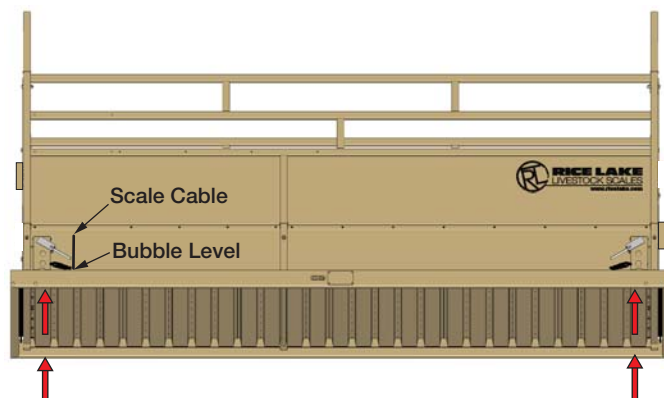

Figure 2-1. Shim/Load Cell Stand Locations
In all installations, the scale must be level to ensure proper operation. All MAS-P Animal Scales are equipped with a bubble level (located on top the base frame – see Figure 2-1). Ensure the bubble is fully inside the circle marked on the top of the level.
Rice Lake Weighing Systems recommends a concrete foundation (piles or piers) for permanent installations. The foundation must be able to support the gross weight of the scale (scale dead weight plus scale capacity), and the piles or piers must be situated directly under the load cell stands (see shimming location in Figure 2-1). The foundation must not be subject to distortion or motion due to frost action. A qualified local professional should be consulted to recommend the proper size of foundation for the location. Foundation dimensional requirements are available from the dealer or Rice Lake Weighing Systems. Requirements may vary from one Weights and Measures jurisdiction to another, please contact the local office.
2. Inspect all four corners of the scale. Although the scale will weigh properly up to four degrees off level, individual corners of the scale should not be allowed to teeter. If any of the corners are not contacting the ground, place shims directly under the base frame, under the load cell stands, to prevent teetering (see Figure 2-1) .
3. Plug the indicator into the scale cable. The scale cable runs from the junction box (inside the base frame) to the indicator (see Figure 2-1).